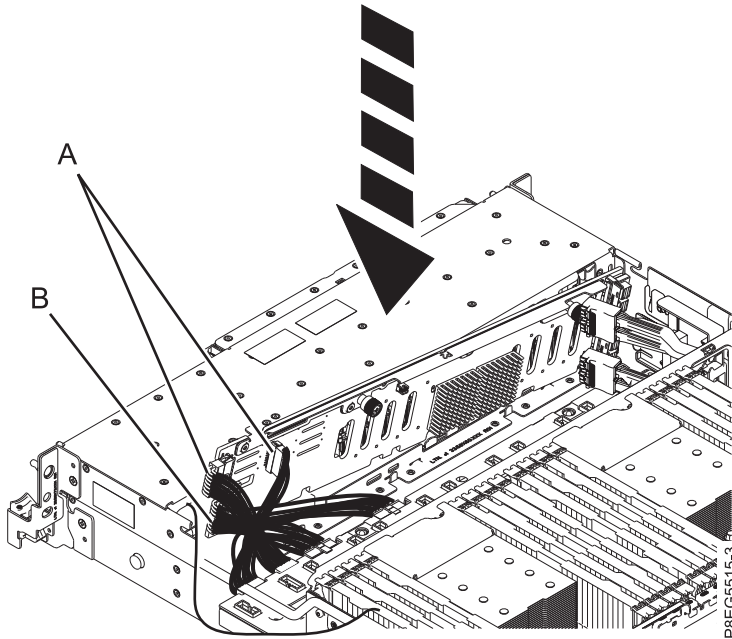

Figure 140. Reconnecting the power, signal, and control panel cables
30. Reconnect the signal and control panel cables (**A**), and the power Y cable (**B**), to the disk drive backplane and the system backplane as shown in Figure 140 on page 141.